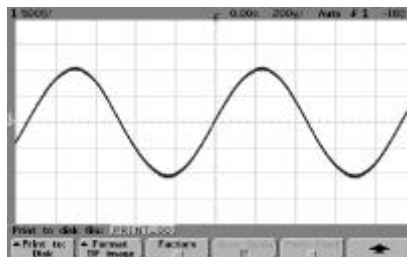

Figure 6-5: Scope Display of Test Point 12 Signal
6. Press the *Autoscale* button on the scope. You should now see a display like Figure 6-5. Congratulations - you've just acquired your first waveform!